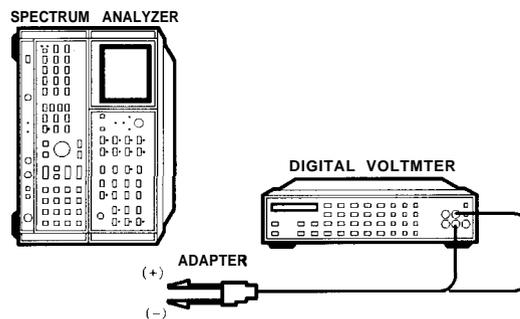

Figure 3-1. Low-Voltage Power Supply Adjustments Setup
1. Position the instrument on its right side with the IF-Display Section facing right, as shown in Figure 3-1. Remove the top cover of the IF-Display Section and the bottom cover of the RF Section.